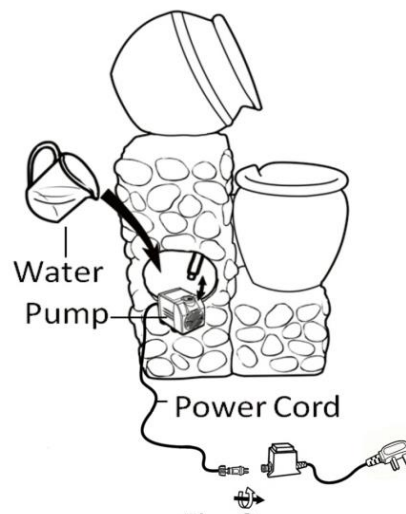

Fig. 2
4. Lead the water supply tube out through the hole on the back of the fountain body. Insert the water supply tube into the pump outlet that on the top of the pump.(Fig.2)
5. Please the pump upright into the fountain bottom. Connect the pump with transformer until the parts are secured together (Fig.2).
6. Add clean water into the fountain basin. The water level should be approximately 1 in. / 25 mm lower than the edge of the basin. Connect the transformer to a GFCI outlet and the product will begin to function as intended. (Fig. 2)